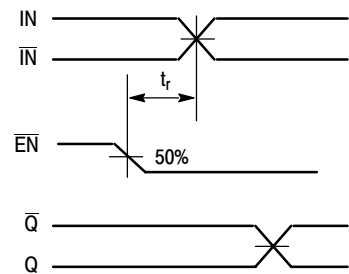

Figure 5. Release Time
19. The release time is the minimum time that $\overline{EN}$ must be deasserted prior to the next IN/ $\overline{IN}$ transition to ensure an output response that meets the specified IN to Q propagation delay and output transition times (Figure 5).